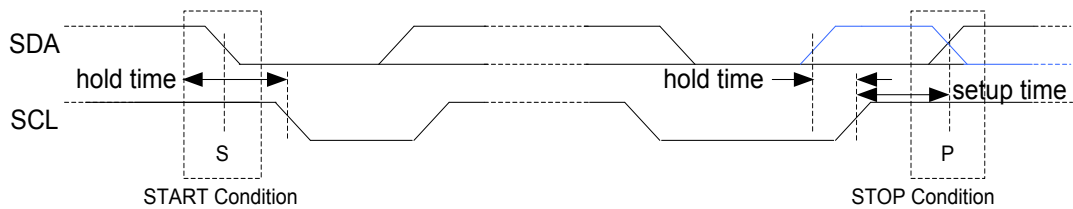

Figure 43. START and STOP (or repeated START, blue line) condition
An idle I2C bus state occurs when both SCL and SDA are not being driven by any master and are therefore in a logic HI state due to the pull up resistors. Every transaction begins with a START (S) signal and ends with a STOP (P) signal. A START condition is defined by a high to low transition on the SDA while SCL is high. A STOP condition is defined by a low to high transition on the SDA while SCL is high. START and STOP conditions are always generated by the master. This slave module also supports repeated START (Sr) condition which is same as START condition instead of STOP condition (the blue-color line shows repeated START in Figure 43).